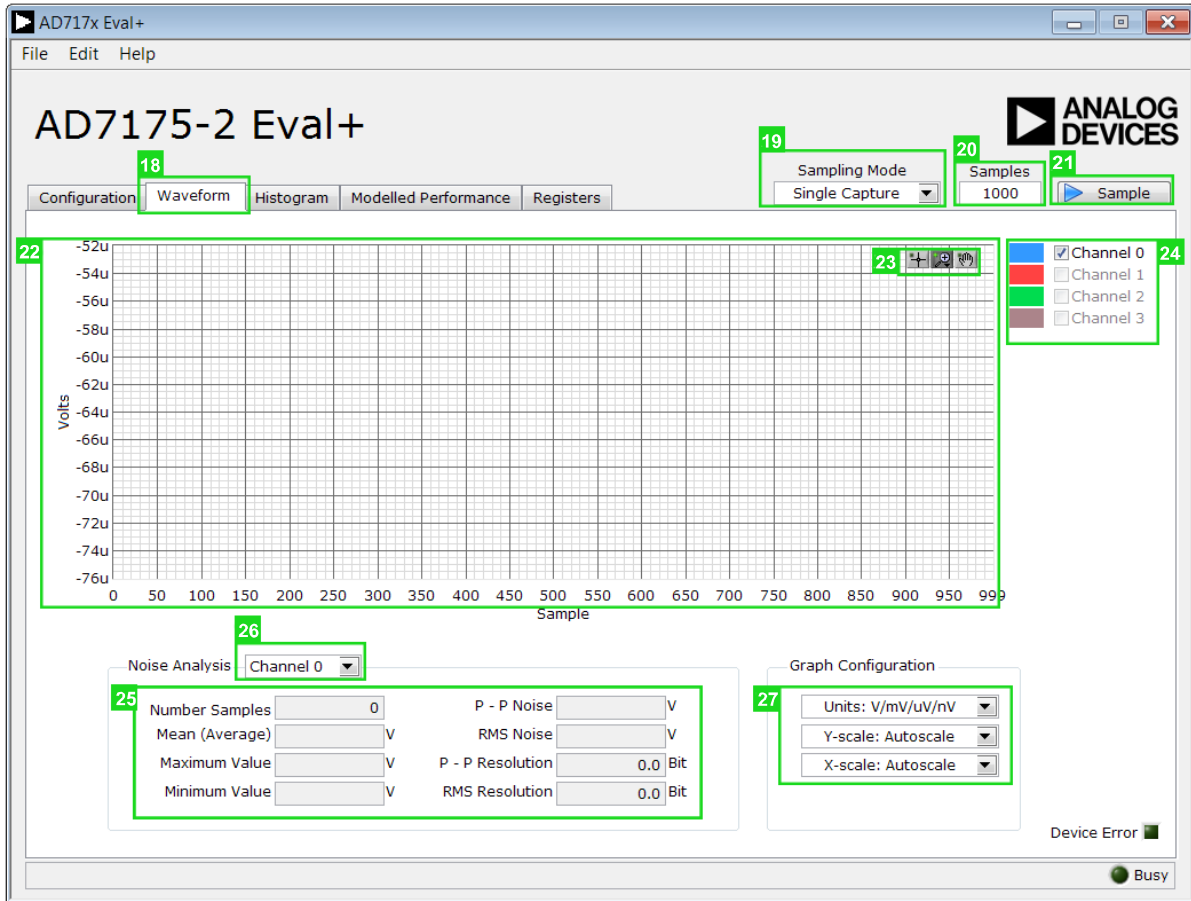

Figure 18. **Waveform** Tab of the **AD7175-2** Evaluation Software
Figure 18 shows the **Waveform** tab of the AD717x Eval+ software.
Click the **Sample** button to start gathering ADC results. Results appear in the waveform graph (22). See Figure 18.
The data waveform graph shows each successive sample of the ADC output. Zoom in on the data using the control toolbar (labeled 23 in Figure 18). Click the x-axis and y-axis to change the scales on the graph.